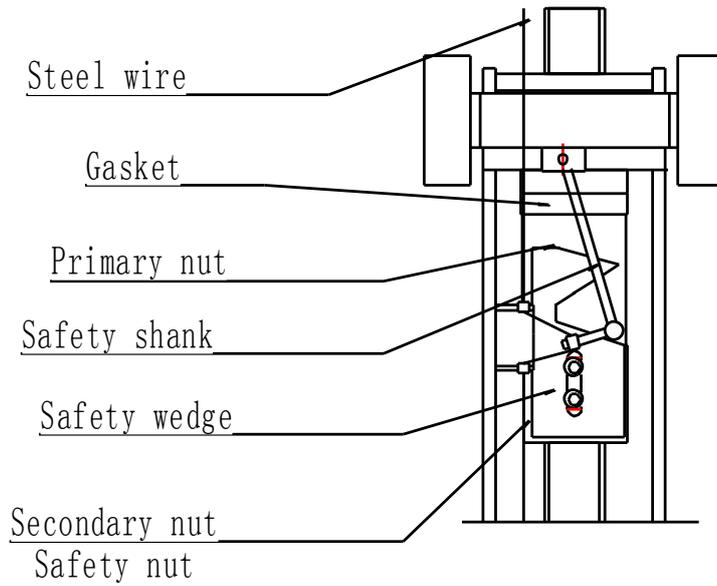

Fig. 29
6.2.2 If the nut is in position indicated in Fig 29, this indicates the mother nut is damaged, and the safety nut has take the place of the mother temporarily as the supporting nut. Replace the damaged mother nut immediately to avoid danger or vehicle dropping (as the emergency measures, the electrician opens the electric cabinet door, press the contactor directly to drop the vehicle slowly).
6.2.3 If the nut is in position indicated in Fig 29, solve it according to 6.22.